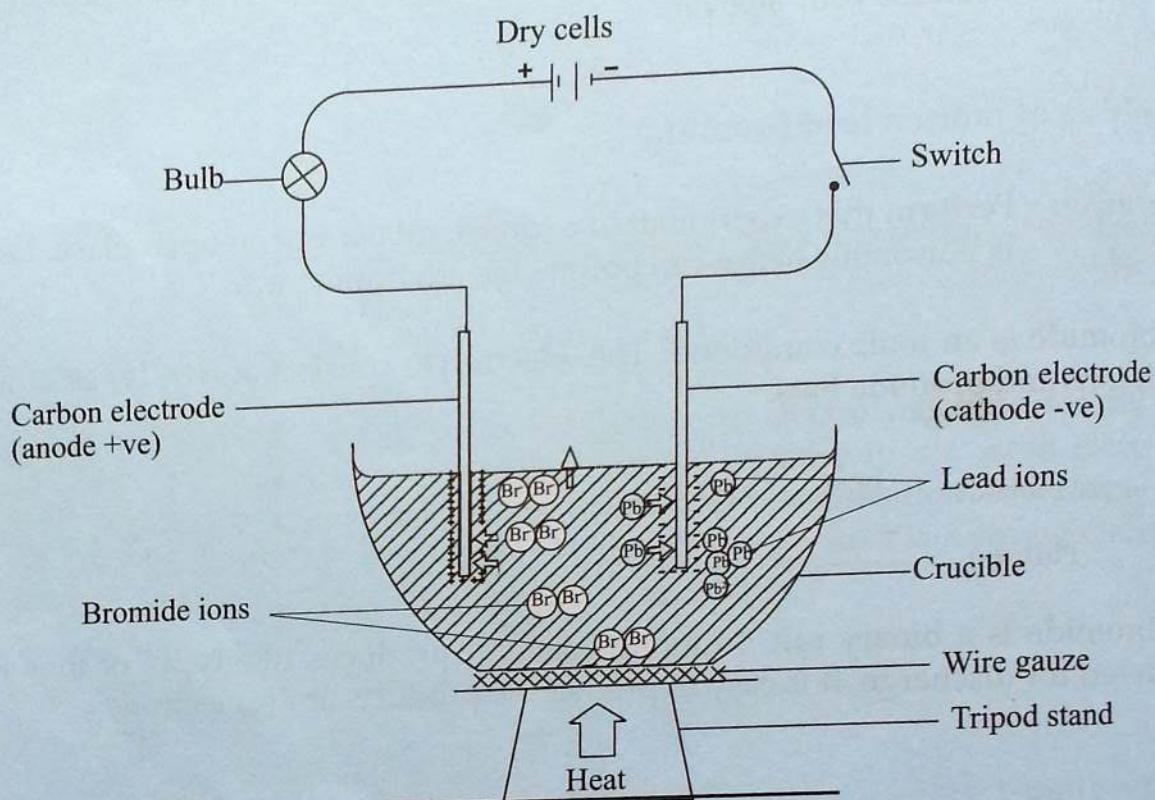

Fig. 4.6: Movement of ions during the electrolysis of molten lead bromide.
1. Set up the apparatus as shown in Fig. 4.6.